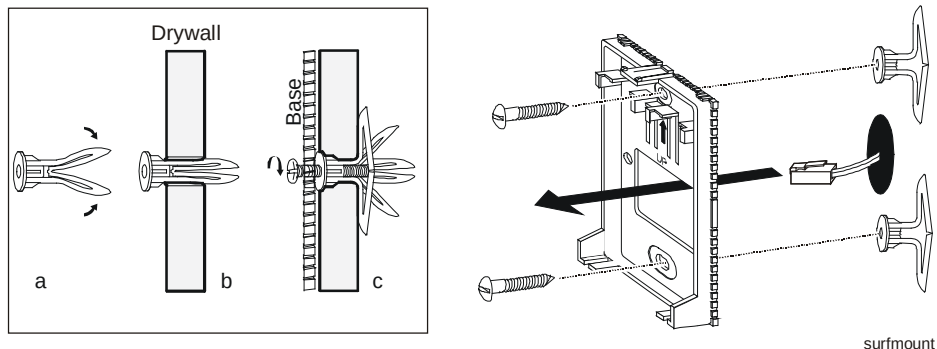

Figure 3: Mounting the Surface Base
4. Insert the anchors in the drilled holes, pull the wiring through the surface base, position the surface base, and drive the screws (Figure 3).